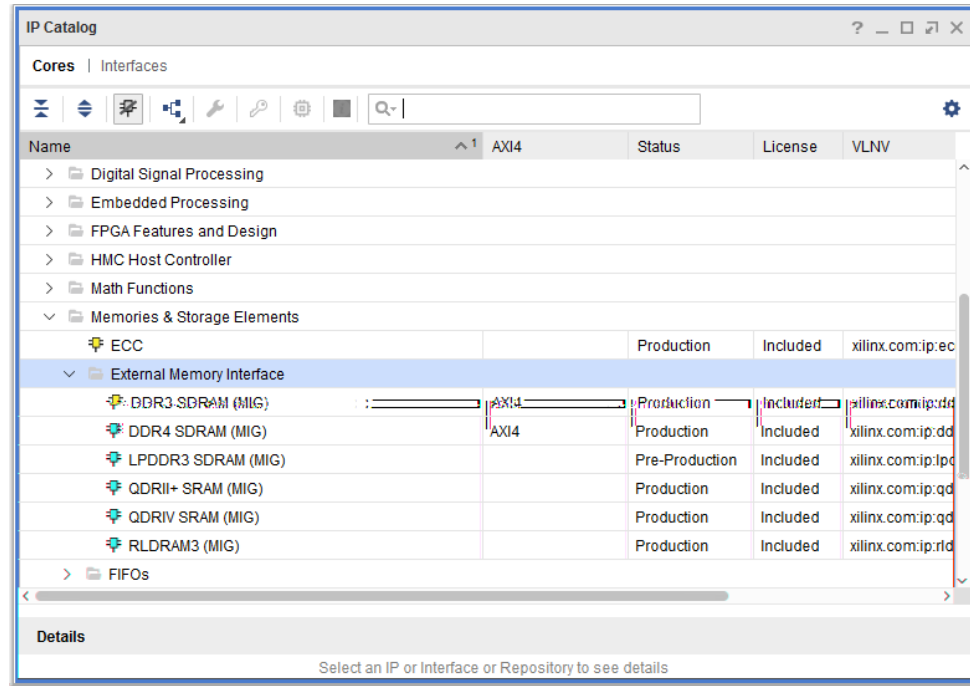

Figure 4-1: Expanding the Memory and Storage Elements Category
1. Open the Vivado IP catalog, and expand the **Memories & Storage Elements > External Memory Interface** category (Figure 4-1).